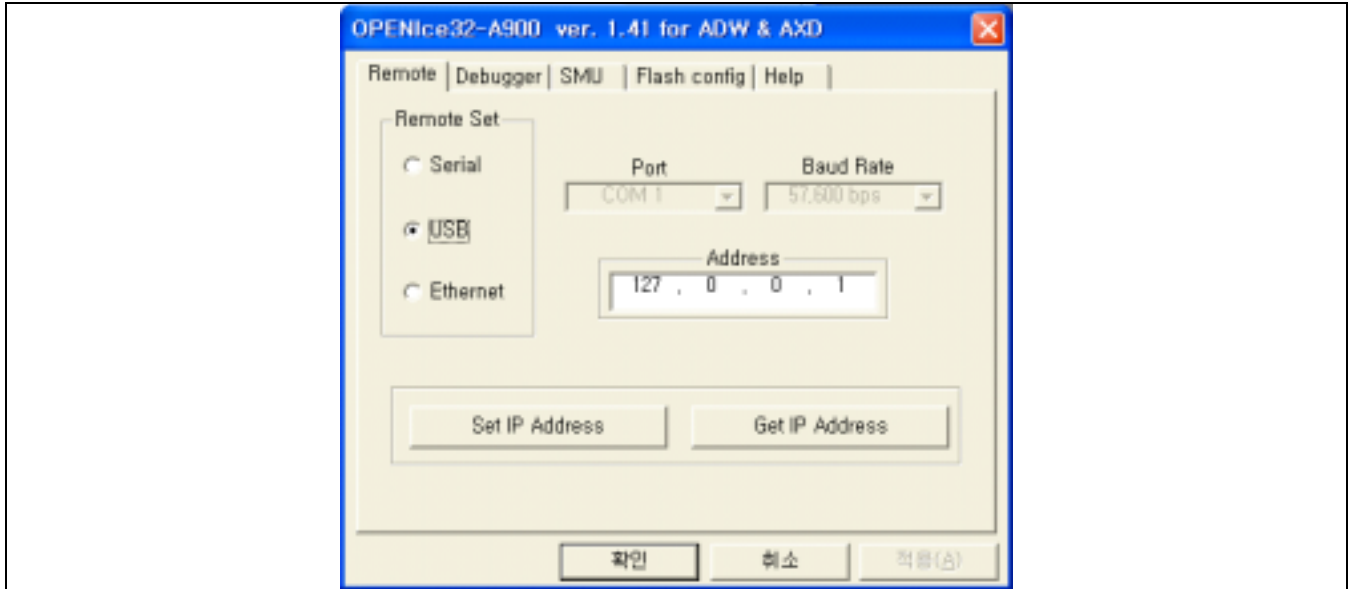

Figure 2-15. OPENice32-A900 Configuration: Communication Setting Page
- 4. ConfigureOPENice32-A900 dialog box (See Figure 2-15, 2-16).